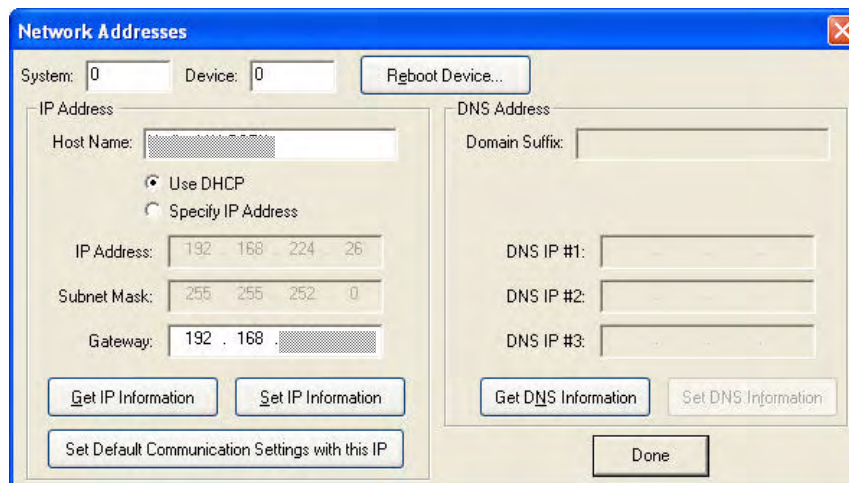

FIG. 47 NetLinx Studio - Network Addresses dialog
- a. In NetLinx Studio, select **Diagnostics > Network Addresses** to open the *Network Addresses* dialog (FIG. 47).